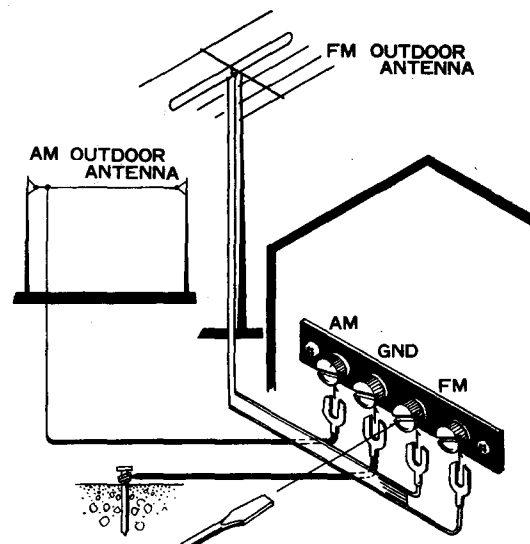

Fig. 5
- When using MODEL SX-2500 at a relatively long distance from the station, or within a building or home with relatively thick walls, or vicinity of tall buildings, erect an outdoor FM antenna, and connect it to the FM antenna terminals as in Fig. 5.